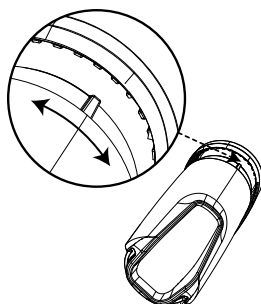

Figure 5 -
4. Position the detector in order to cover the protected area by inserting the top of the detector into the preferred slot (see figure 5 and 6).